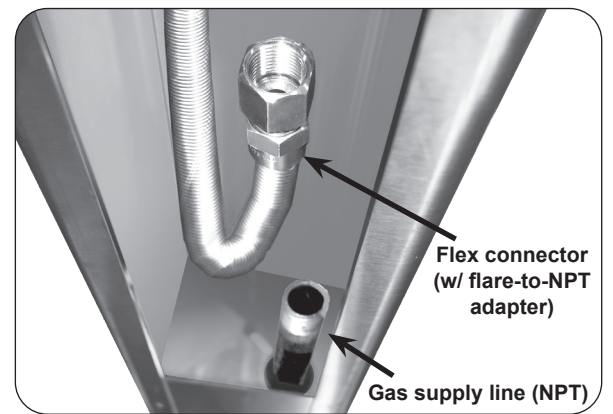

Fig. 27-2 Post interior detail
2. Verify that the gas supply line fits through the gas line clearance hole in the bottom of the post (see Fig. 27-2). The clearance hole is the larger of the two holes in the bottom of the post and is off center.